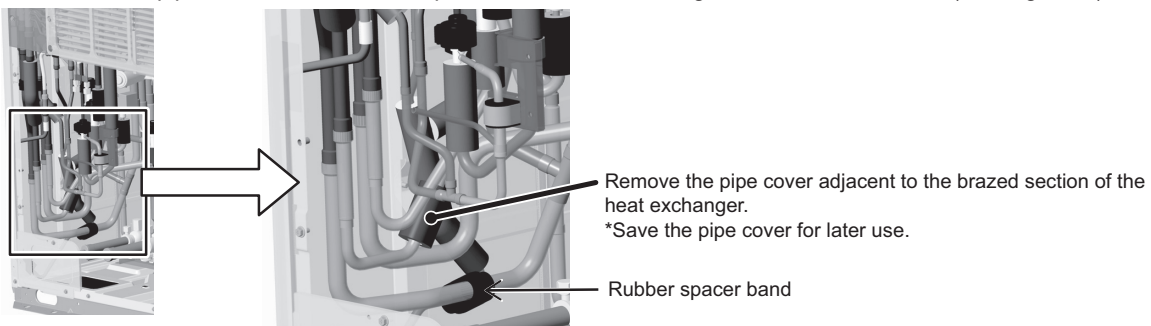

Figure 6
- (6) Cut the band on the pipe cover and the rubber spacer on the heat-exchanger side to remove them. (See Figure 6.)